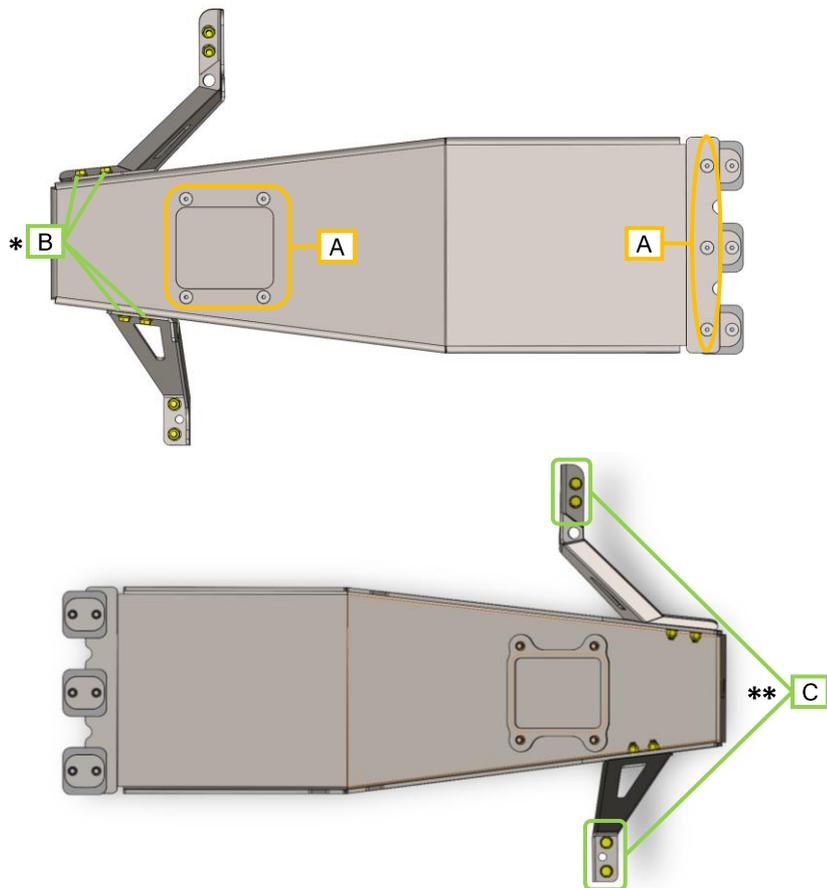

Figure 11: bolt callouts on engine skid plate
10. Proceed with Table 1 while referencing Figure 11. Tighten the engine skid plate hardware to the following specification. **Pay attention to the * notes at the bottom of the page.**